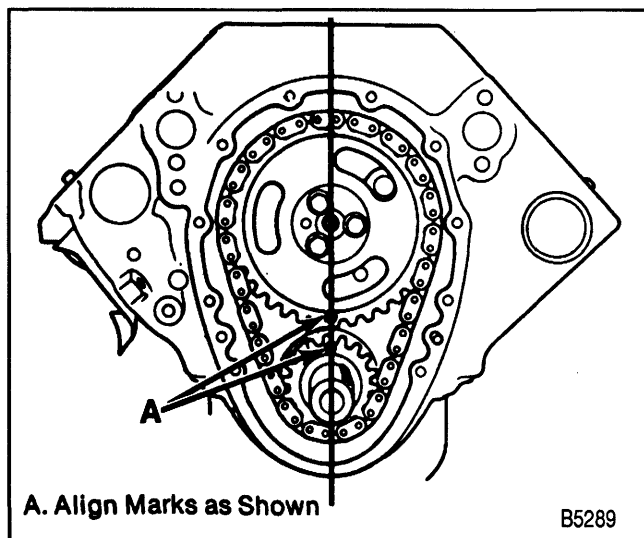

Figure 28—Timing Marks
- ↔ Remove or Disconnect (Figures 28, 29, and 30)
- Align the timing marks (figure 28).
Install or Connect (Figures 28 through 30 and 38)
- Line up the timing marks on the camshaft sprocket and crankshaft sprocket (figure 28).